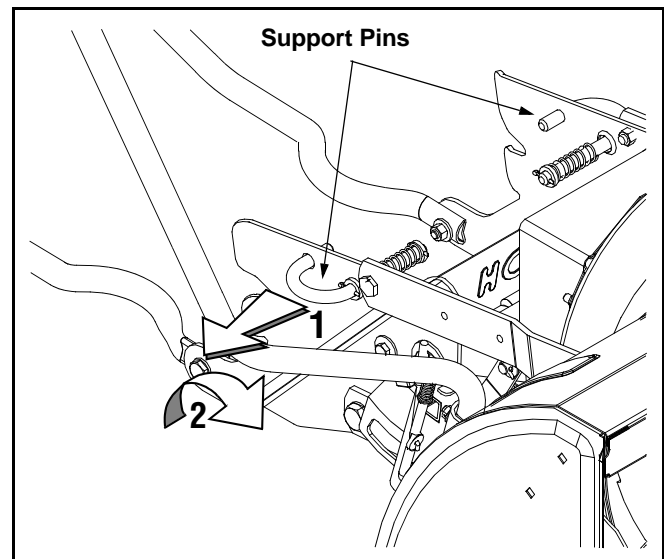

Figure 14
2. Pull the support pin on the right side of the upper lift link outward and rotate it forward so it remains in the "out" position. See Figure 14.